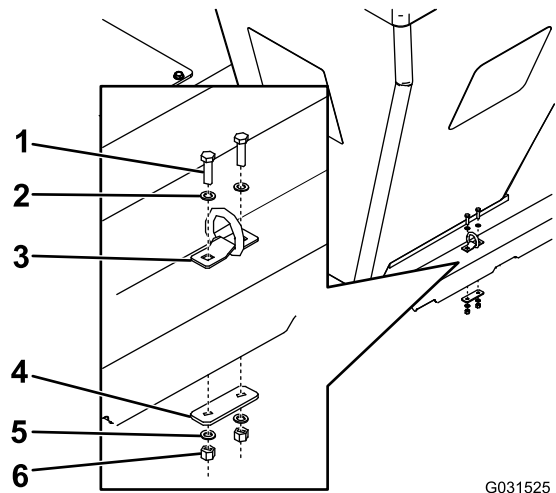

Figure 7
2. Install the D-rings as shown in Figure 7 and torque the bolts to 28 Nm (19.7 ft-lb).